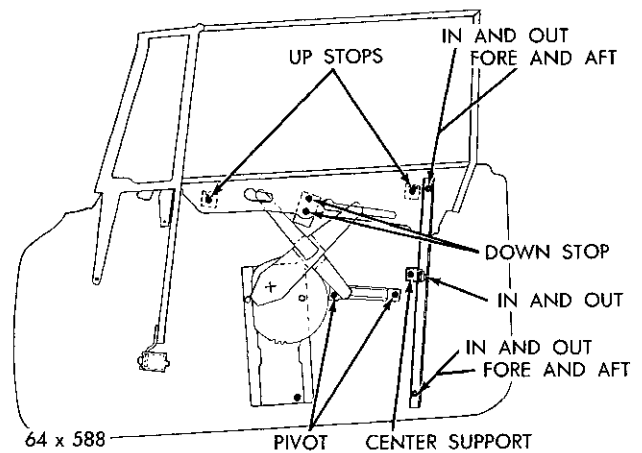

Fig. 80—Door Glass Adjustments (Imperial)
(1) Remove the inside handle, trim panel (disconnect the wires from the control switch) and remove the watershield.
(2) Run the door glass to the down position and remove the up stop brackets (Fig. 80).